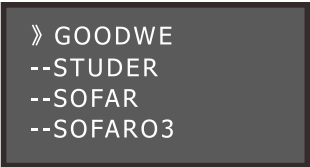
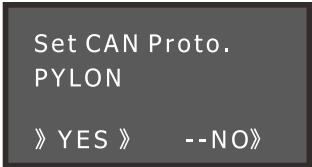

Figure 1-2.1
Figure 1-2.2
- Under the interface shown in Figure 1-1, select downwards with the Down key, place the front cursor "»" in the "Set CAN Prot" column, and press the Enter key to enter Figure 1-2.1.
- In the interface of Figure 1-2.1, the communication protocol for the requirement can be selected by pressing the Down key. Place the cursor "»" in the corresponding column of the protocol name for the requirement, and press the Enter key Enter the protocol settings, as shown in Figure 1-2.2.